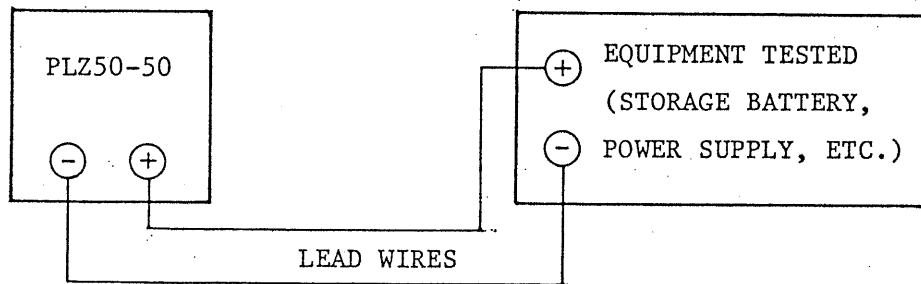

Figure 5
The FUNCTION switch is for selecting the required operation mode of the device, as shown in Figure 5. Details of the operation modes are explained at a later part of this instruction manual.
- (3) Turn-ON the LOAD switch and turn clockwise the LOAD knob so that a constant current flows in the device and the ammeter indicates the current value. (See Figure 5.)